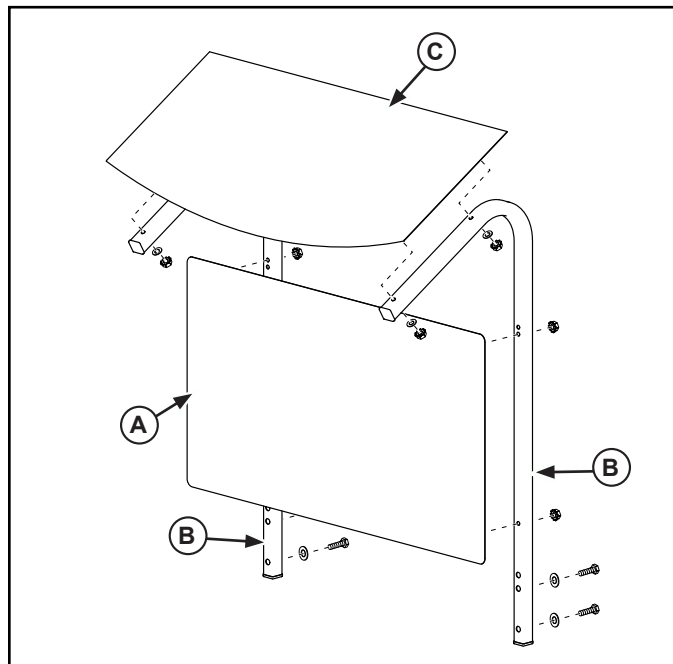

Figure 1. Installing Merchandising Components
3. Install the legs (B) to the back of the unit using hardware as shown. See Figure 1. Do not tighten at this time.